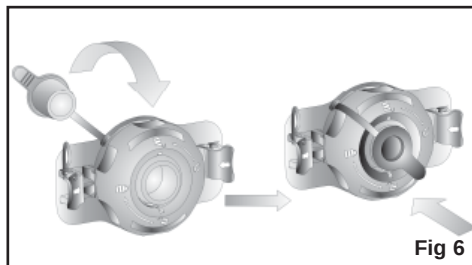

Fig 6
12. Close the optional inflation cap securely after inflation. See Fig 6.